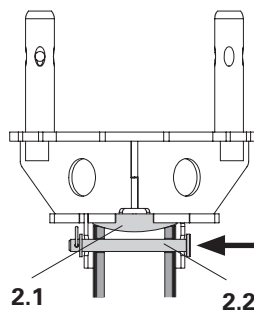

Fig. A1.02c
5. Fit the plate and secure it with a cotter pin. (Fig. A1.02c)